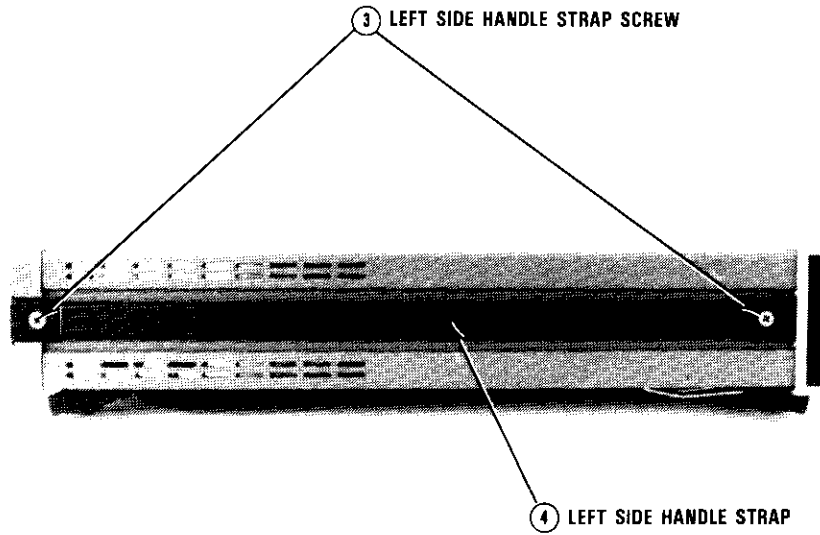

Figure C-2. HP 3458 Left Side
5. Refer to Figure C-2. Turn the instrument so its left side faces you.
8. Refer to Figure C-2. Reinstall the left side handle strap. Use the #1 pozidriv to reinstall side handle strap screws.